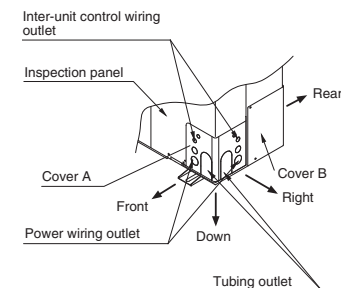

Fig. 4-2
- (1) If the routing direction is through the front, rear, or right, use a nipper or similar tool to cut out the knockout holes for the inter-unit control wiring outlet, power wiring outlet, and tubing outlet from the appropriate covers A and B.
- (2) If the routing direction is down, use a nipper or similar tool to cut out the lower flange from cover A. (Fig. 4-2)